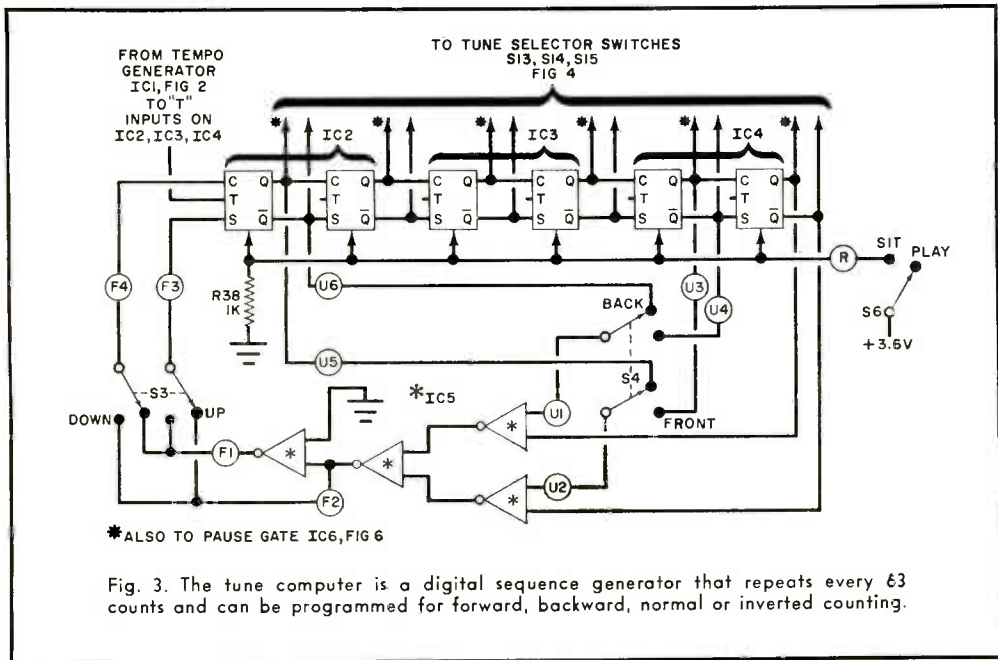

Fig. 3. The tune computer is a digital sequence generator that repeats every 63 counts and can be programmed for forward, backward, normal or inverted counting.
**Tune Computer.** As shown in Fig. 3, the computer is a "pseudo random sequence generator." Like a random noise source, the computer sequences appear to be totally unrelated. However, this circuit can be programmed to return to exactly the same random sequence at any time. The logic consists of a six-stage shift register (*IC2*, *IC3*, and